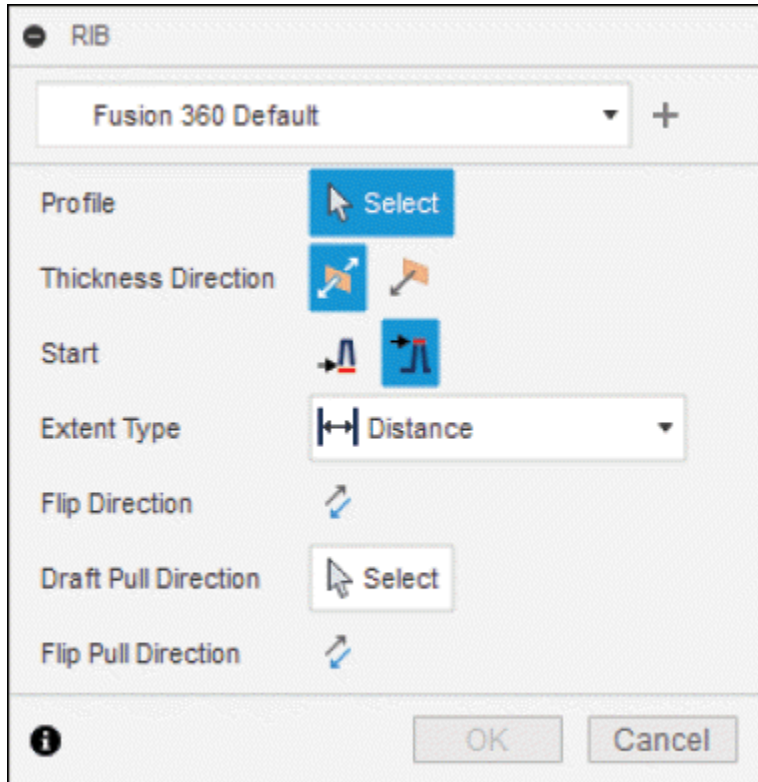

Figure-28. New RIB dialog box
- Now, click on the **Rib** tool again. The new **RIB** dialog box will be displayed; refer to Figure-28.